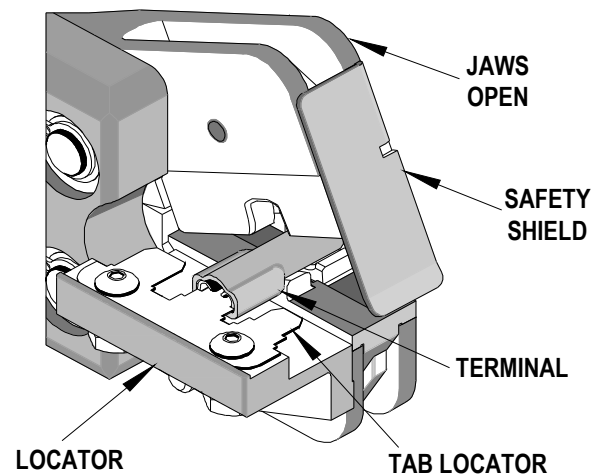

Figure 1
2. Insert the wire into the terminal. Push the terminal and wire onto the tab locator all the way to the stop in the proper color-coded nest. The barrel of the terminal should be up. See Figure 1.